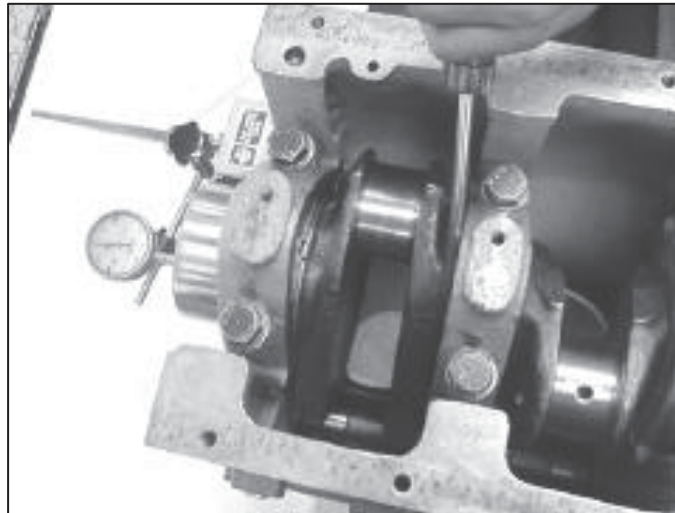

Fig. C2.27 Measuring Crankshaft End Play with Dial Gauge & Magnetic Stand
4. Check the end float of the crankshaft as shown in fig. C2.27